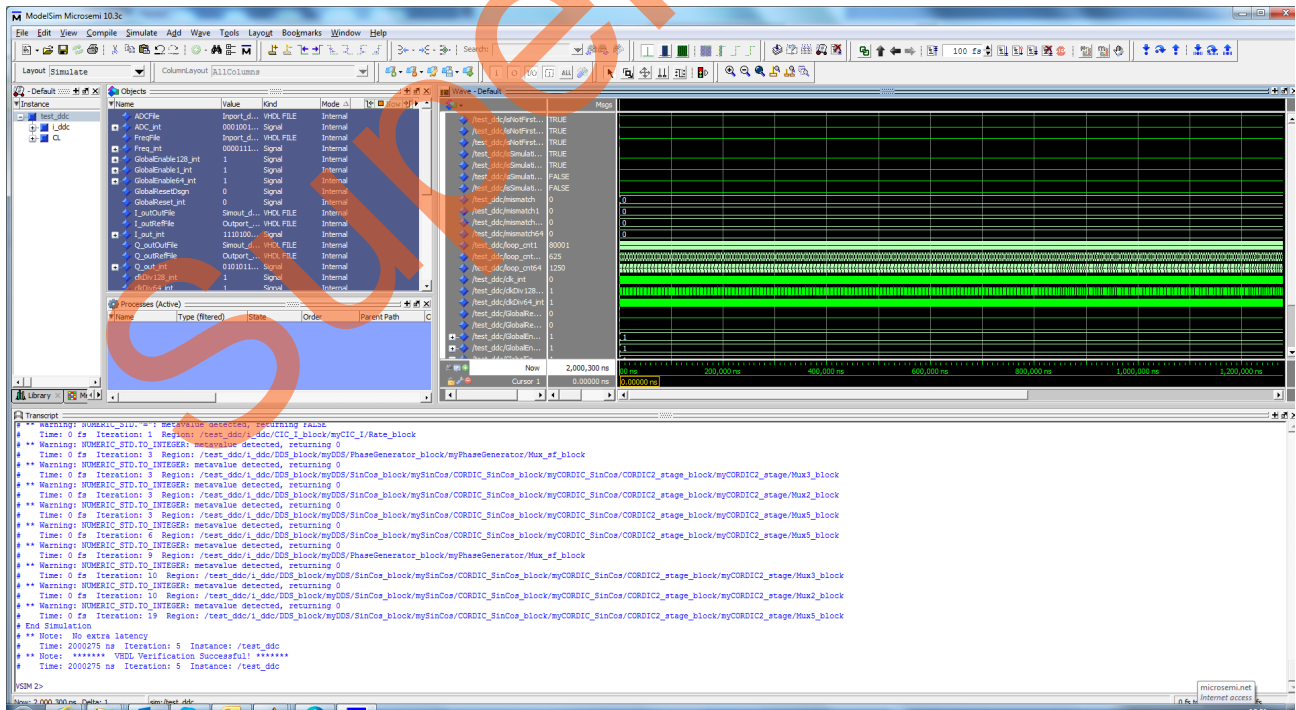

Figure 25. ModelSim User Interface for VHDL
7. Under **Verify Pre-synthesized Design**, right-click **Simulate** and select **Open interactively**. The ModelSim VHDL simulator opens and runs simulation using the `run.do` file, as shown in Figure 25.